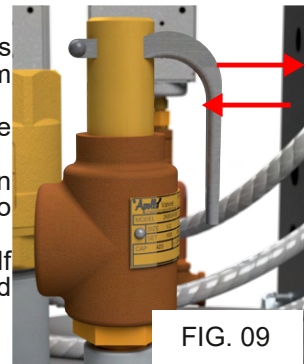

FIG. 09
- Tecmark Controls (Fig. 09):** Turn the black knob of the operating pressure switch clockwise to increase the pressure and counterclockwise to decrease the pressure.